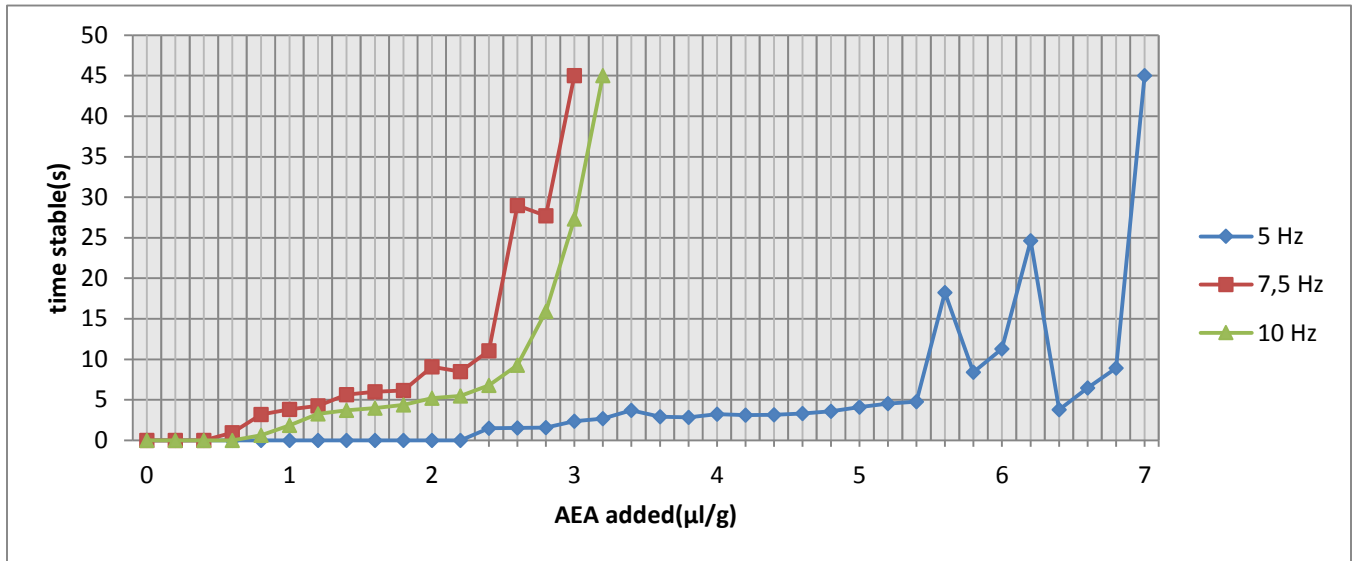

Figure 2: Effect of Frequency on AEA (without SP) for 70/30 OPC/FA from Norcem. Mapeair 25 1:9 was used in this test.
We decided to measure frequency accurately for the first time with our shaker. Figure 2 shows the effect of frequency during the Foam Index test in some of our experiments without the use of SP. The tests were made with different frequencies and were done 3 times for 5 and 7.5 Hz and 5 times for 10 Hz. The curves in Figure 2 show average values of Foam Index (FI) as function of AEA dosage. Materials were Standard cement 70%, Norw Fly ash 30% and Mapeair 25 1:9.
As we can see from Table 5, Figure 2 and 3 the low frequency 5 Hz requires much more AEA to foam than 7.5 and 10 Hz and there is little difference between 7.5 Hz and 10 Hz. The reason(s) for this may be that at 5 Hz shaking the cement grains sank to the bottom of the container, and were therefore unable to properly mix the materials and/or less energy was supplied to produce foam.